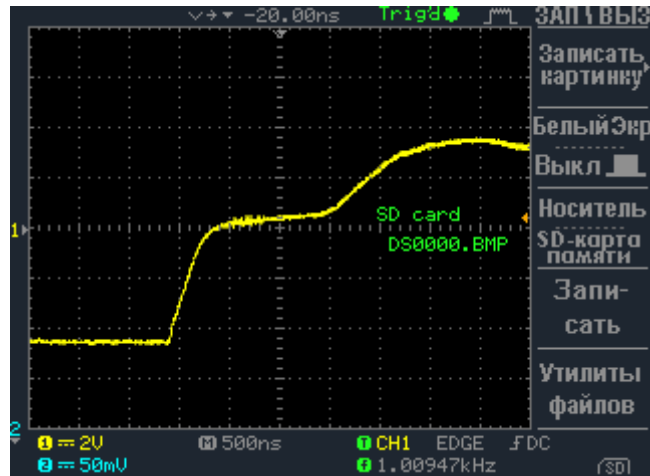

Figure 5.1. Mismatched line. Video: [enip2.ru/files/rs485\\_01.zip](http://enip2.ru/files/rs485_01.zip)
- The mismatched line in the video (Fig. 5.1) shows that the pulse duration changes dramatically by 2  $\mu$ s, which can lead to the discarding of the packets by the receiving devices, due to the lack of synchronicity of the transmitted pulses. There is also a "step" directly above the receiver operation threshold, which, under slightly worsened conditions, can add to a state of uncertainty and will also affect the time of fixation of the incoming pulse by the receiver. In general, in laboratory conditions, work on such a line is quite possible, but for real objects it will be useful to carry out measures to coordinate the line.